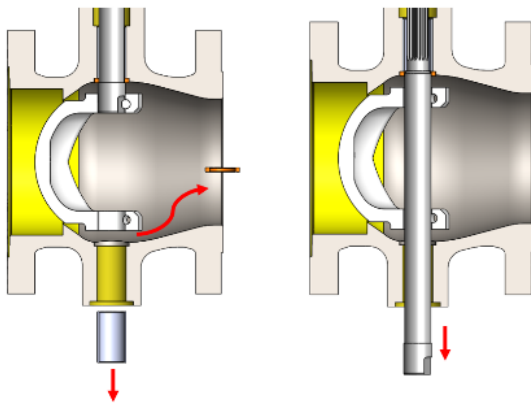

Fig. 5 (b)
- Remove the post side bearing and thrust bearing carefully before removing post for size 1" & 1.5" & connect the appropriate tool with post (tap on the bottom surface) & remove the post by the pulling towards shaft flange side. Refer Fig. 5(c)